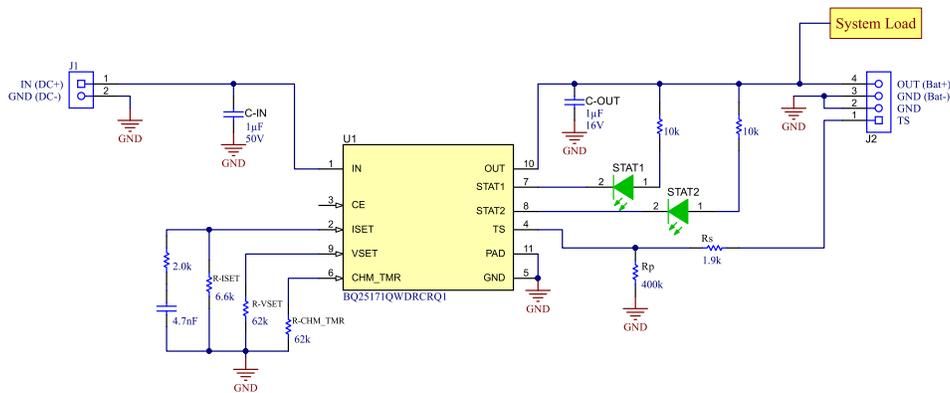

Figure 5-1. LiFePO4 45-mA Fast Charge Design
Figure 5-1 provides a solution that will charge at 45 mA and demonstrates the required resistors to modify the allowable battery temperature range.
- ICHG can be set as low as 10 mA via ISET, for ICHG below 50mA TI recommends adding a RC circuit in parallel with R-ISET for greater signal stability. R = 2 kΩ and C = 4.7 nF recommended. Refer to Figure 5-1 above for implementation of RC circuit.